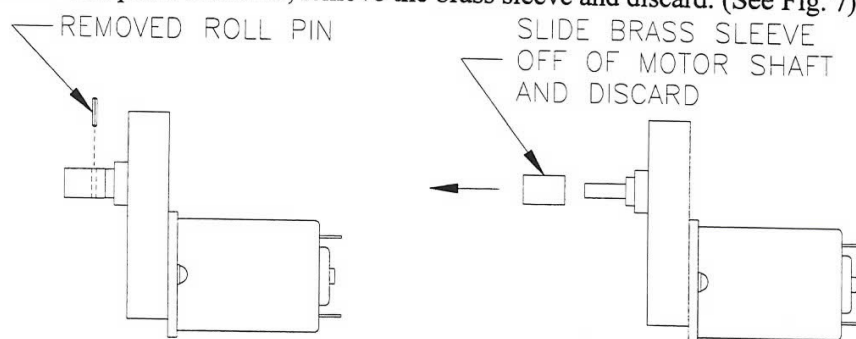

FIGURE 7
8. After roll pin is removed, remove the brass sleeve and discard. (See Fig. 7)